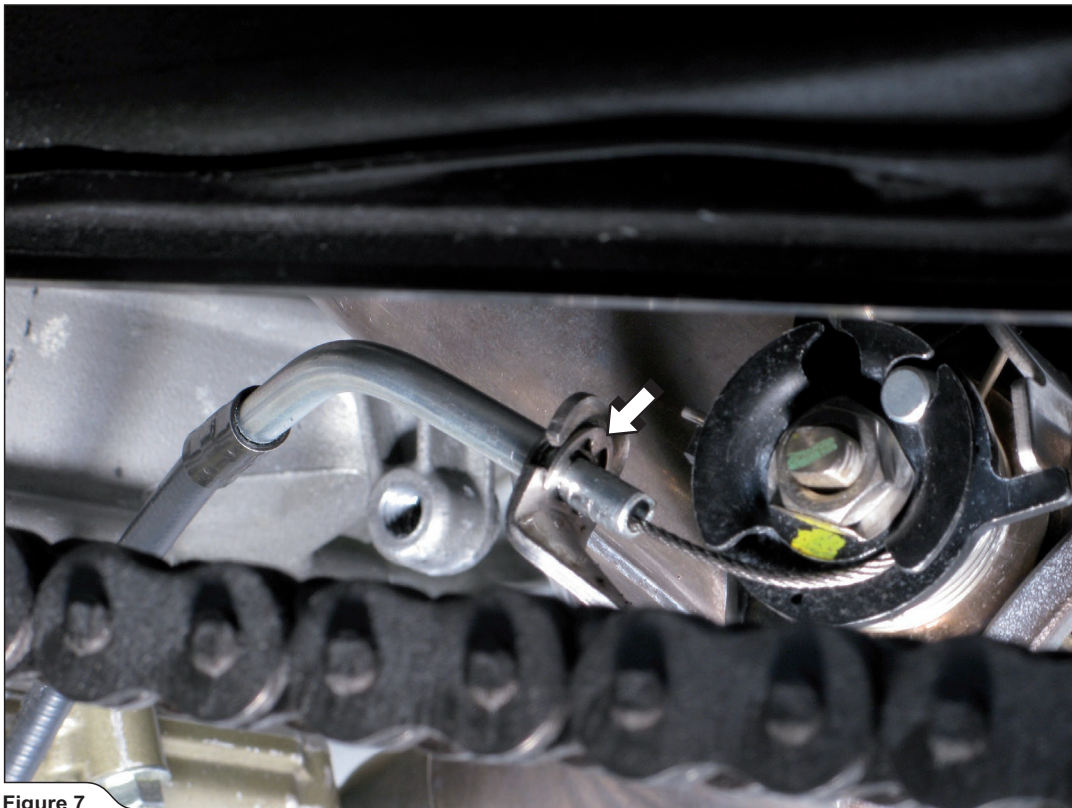

Figure 7
4. Undo the marked circlip and remove the cable off the exhaust valve (Figure 7).